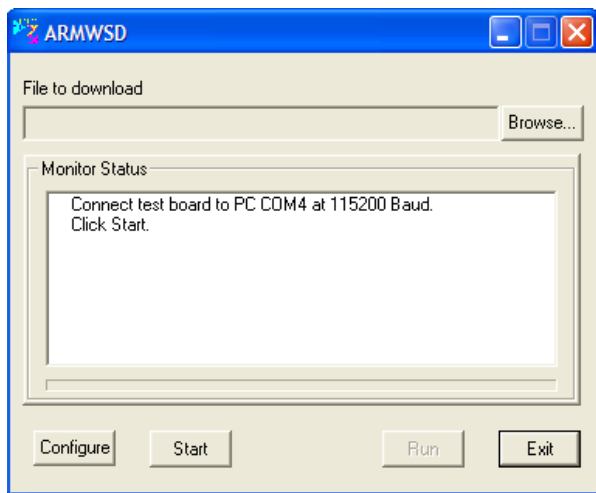

Figure 8. ISEB ARMWSD Firmware Downloader
2. Run the **ARMWSD.exe** program located in the **Firmware Utility** folder; it displays information about the downloader, as shown in Figure 8.
When the COM port is selected, click **OK** to accept the changes and go back to the ARMWSD box (see Figure 8). The downloader is now fully configured. Follow these steps to flash the firmware:
1. Click **Start** in the ARMWSD box (see Figure 8) to initiate the flashing process.
4. If the downloading process fails, which is indicated in the **Monitor Status** box (see Figure 8), attempt the download again by repeating Step 1 through Step 3.
5. After the download has completed successfully, click **Run** (shown in Figure 8).